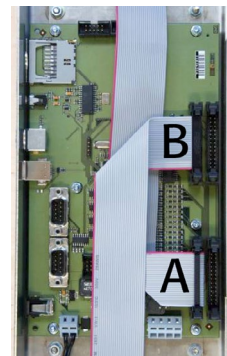

fig. 3.1-28
Step ③: Attach the connectors of the ribbon cables "A" and "B" with the control unit in the correct frame part as shown in (**fig. 3.1-28**) .